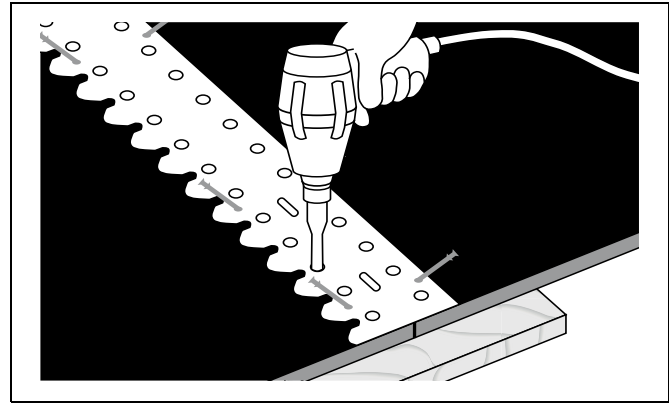

Figure 4F
3. Punch or bore bolt holes using an impact tool with Flexco Power Punch or Flexco Power Boring Bit speeds hole boring operation. Remove templet. Leave plank under belt ends for a work surface. All work can be done from the top of the belt. *(See Figure 4F on Page 21.)*